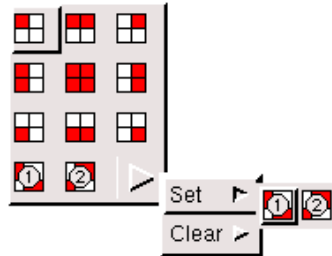

Figure 3.1.2: Preset Configurations
2. Right-click the sash to open the preset-configuration menu (Figure 3.1.2).